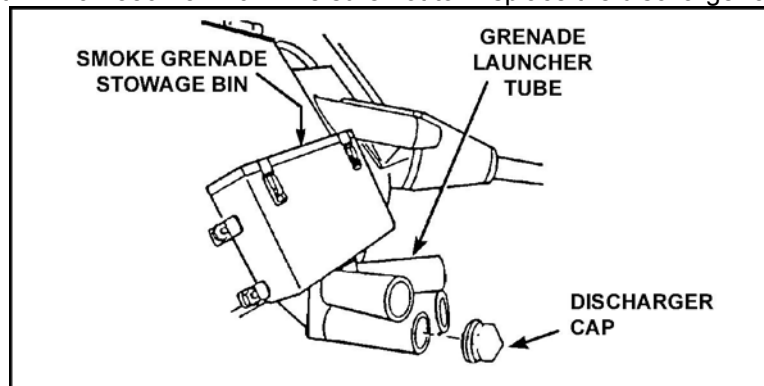

Figure 1. Smoke grenade and launcher.
2. Unload the launch tubes. Inspect and clean the smoke grenade stowage bins and launcher tubes in accordance with TM 9-2350-252-10-2. Be sure not to misplace the discharger caps (Figure 1).